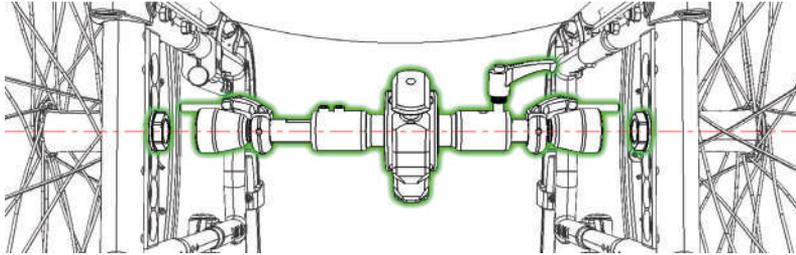

Figure 18
- Position the Rear Linking System Kit for foldable wheelchairs, at its minimum extension, between the wheelchair's wheel axles (Figure 18).